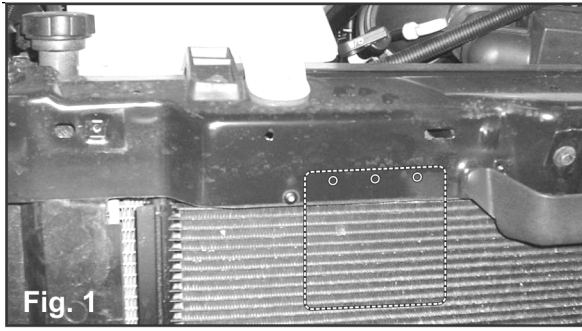

Fig. 1
2. Place the bracket onto the mounting area in its exact mounting location. Mark the location of the 3 mounting holes onto the mounting surface (Fig. 1).